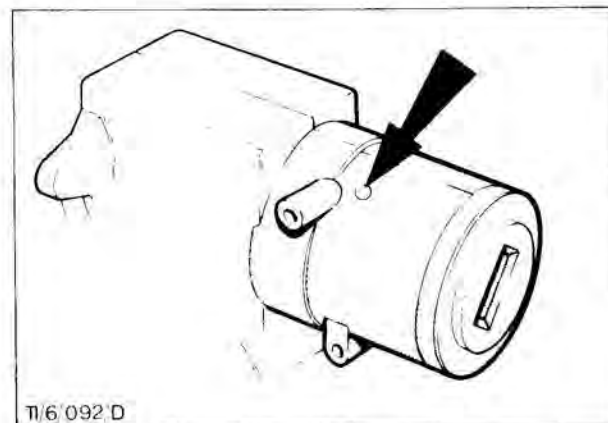

Fig. 76. Key cylinder leaf spring access hole
4. Using a suitable tool, such as a scribe, depress key cylinder leaf spring through access hole, Fig. 76, provided in lock housing, whilst pulling on key until key cylinder and lock barrel are withdrawn.